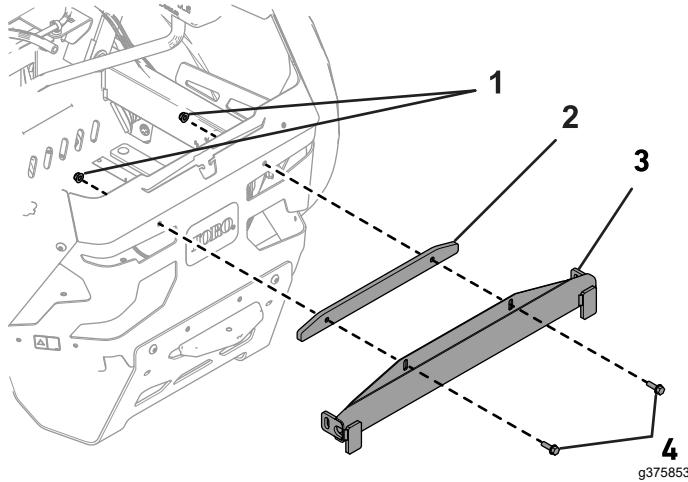

Figure 11
1. Secure the upper bagger support and support plate to the center, rear guard using 2 flange-head bolts (5/16 x 1-1/4 inches) and 2 locknuts (5/16 inch) as shown in Figure 11.